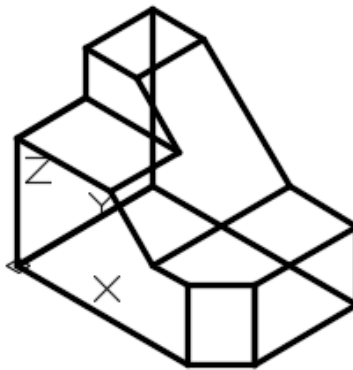

Figure Step 3
Step 3 Set the current UCS to World. Enter the UNITS command and in the Units dialogue box, set the Insertion Units to Inches. Using the INSERT command, insert the block: AutoCAD 3D Lab 01-2 at the coordinates 0,0,0. Explode the block and set the current view to SE Isometric. (Figure Step 3)